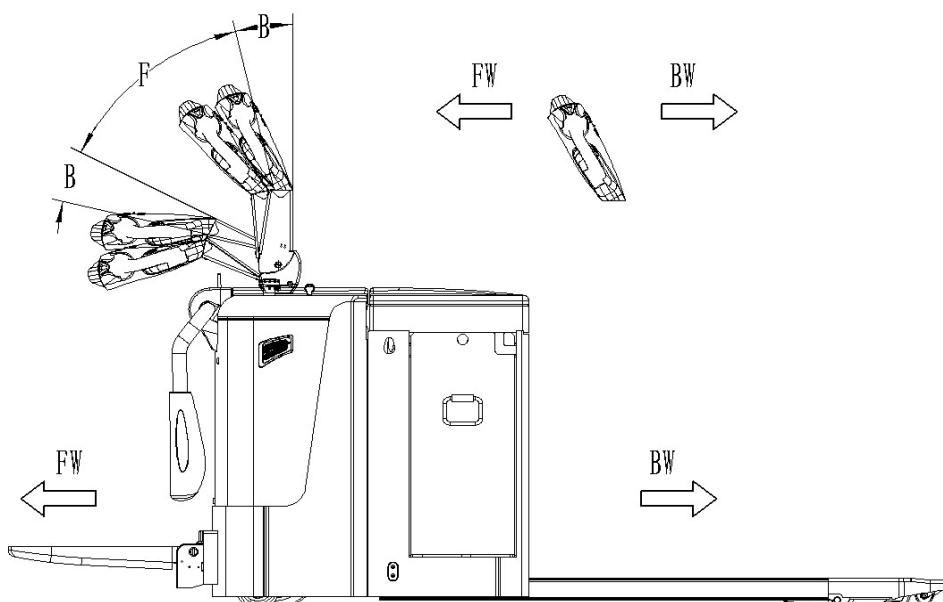

Fig. 14: Operating direction
After starting the truck by turning on the key switch (18), move the tiller to the operating zone ('F', fig.14). Turn the accelerator button to the desired direction forward 'Fw.' or backwards Bw.'(fig. 14).